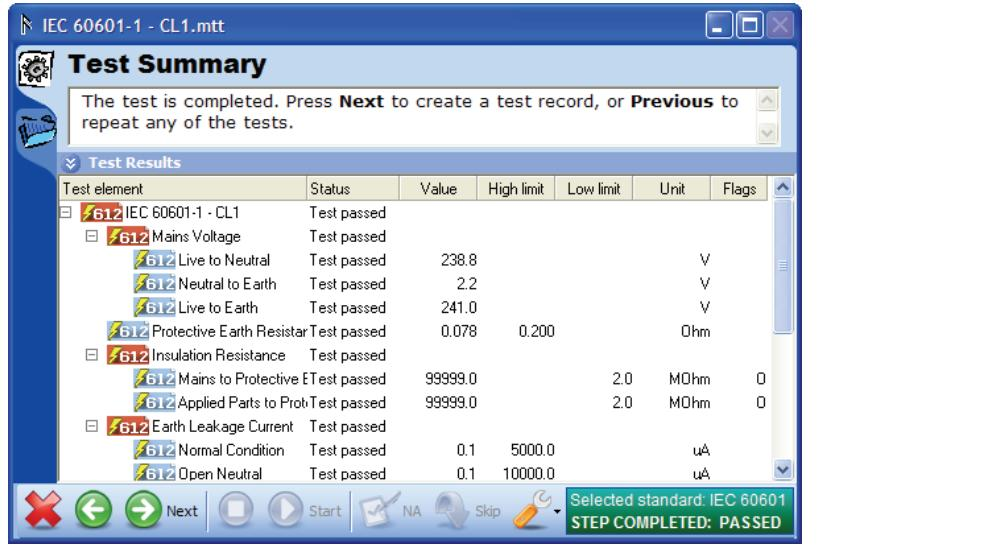

Figure 3-14. Test Summary Window
2. Click the Next button () to open the Test Summary window as shown in Figure 3-14.